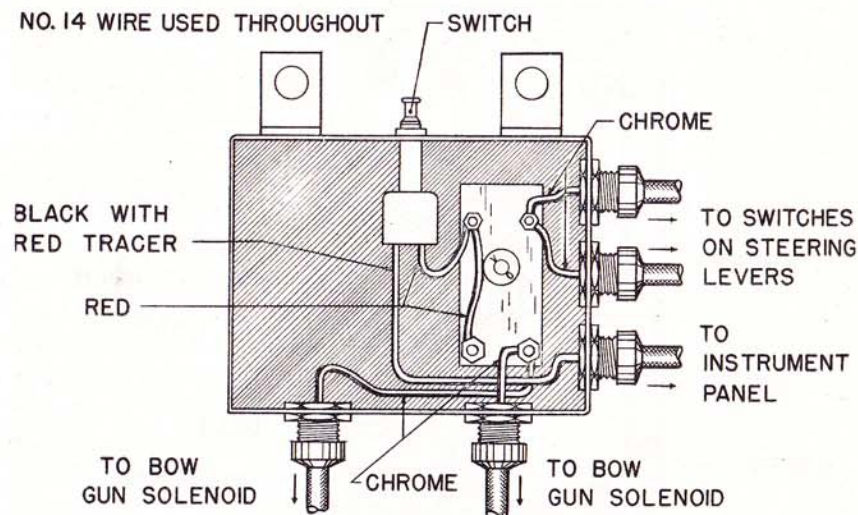

FIGURE 66.—Bow gun relay box.
*b.* The electric power is supplied by the main batteries and can be cut off by a push-pull switch located in the relay box (fig. 66). The relay box is attached to the front hull plate to the left of the instrument panel, directly above and between the bow guns.